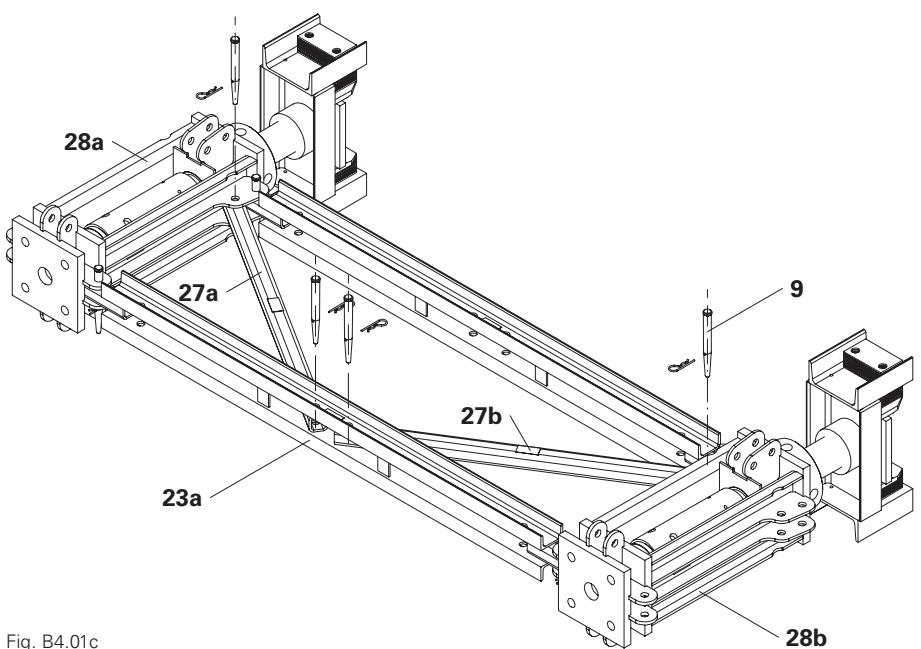

Fig. B4.01c
9. Connect the second diagonal strut VST 200/62.5 (**27b**) to the horizontal ledger VST (**23a**) using 1x fitting pin Ø 21 mm (**9**) and secure with cotter pin 4/1, galv.(Fig. B4.01c)